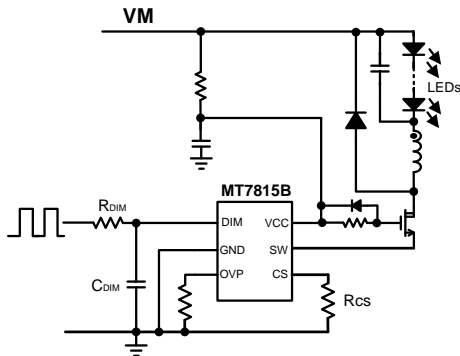

Fig.1 Analog dimming setup
- 2) Using PWM signal to generate analog signal by connecting a Low-Pass RC filter to DIM pin. Refer to Fig.1.
It is recommended to set the R_{DIM} to be less than 10K, to adjust the C_{DIM} to achieve PWM filtering. The ratio between the dimming frequency of PWM signal and the cutoff frequency of the $R_{DIM} \times C_{DIM}$ should be greater than 300. Refer to Fig.1.